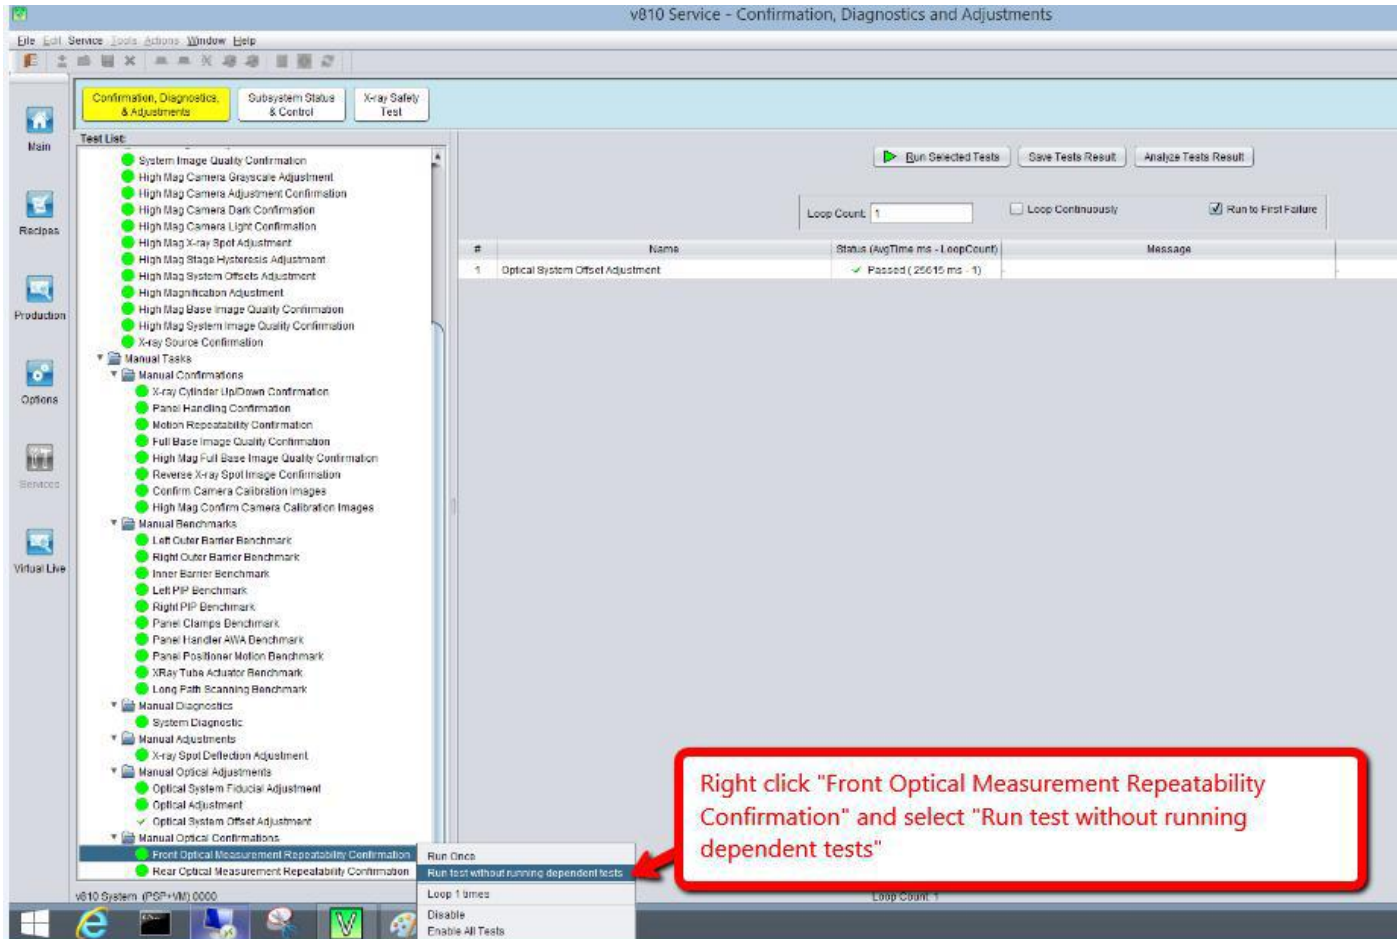

Figure 33 Front Optical Measurement Repeatability Confirmation
25. At **Confirmation, Diagnostics and Adjustment (CD&A)**, under the **Manual Optical Confirmation**, right click **Front Optical Measurement Repeatability Confirmation** and select **Run test without dependent tests** as shown in the Figure 33.